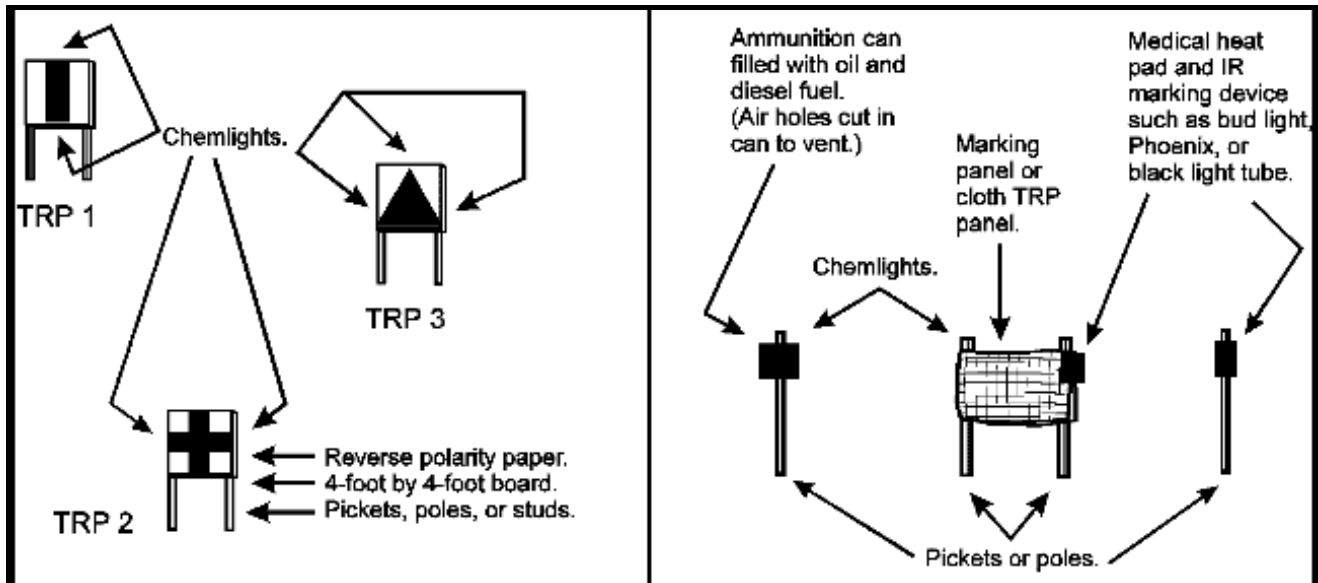

Figure 2-17. Examples of constructed TRP markers.
**Target reference point.** A TRP is a recognizable point on the ground that leaders use to orient friendly forces and to focus and control direct fires. In addition, when TRPs are designated as indirect fire targets, they can be used in calling for and adjusting indirect fires. Leaders designate TRPs at probable enemy locations and along likely avenues of approach. These points can be natural or man-made. A TRP can be an established site, such as a hill or a building, or an impromptu feature designated as a TRP on the spot, like a burning enemy vehicle or smoke generated by an artillery round. Friendly units can also construct markers to serve as TRPs, as illustrated in Figure 2-17. Ideally, TRPs should be visible in three observation modes (unaided, passive-IR, and thermal) so they can be seen by all forces. Example of TRPs include the following features and objects: